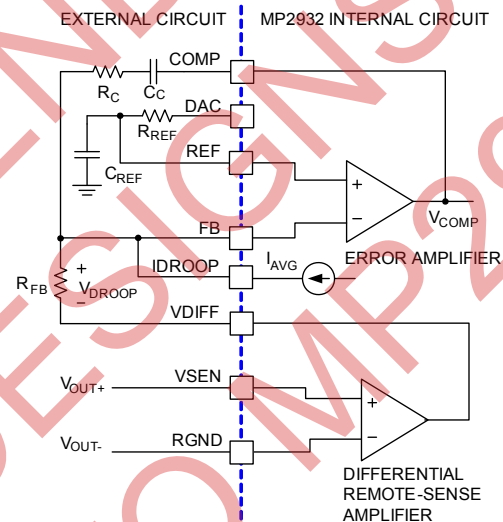

Figure 4—Output Voltage and Load-line Regulation
The MP2932 uses an internal differential remote-sense amplifier as shown in Figure 4. The microprocessor voltage is sensed between the VSEN and RGND pins.
The load-line is realized by a resistor R_{FB} connected between FB pin and the remote sense output (VDIFF). As shown in Figure 4, the average current of all active channels (I_{AVG}) flows from FB through the load-line regulation resistor R_{FB} . The resulting voltage drop across R_{FB} can be seen from Equation (6):
The load-line regulation resistor is labeled R_{FB} in Figure 4. Its value depends on the desired load-line requirement of the application.